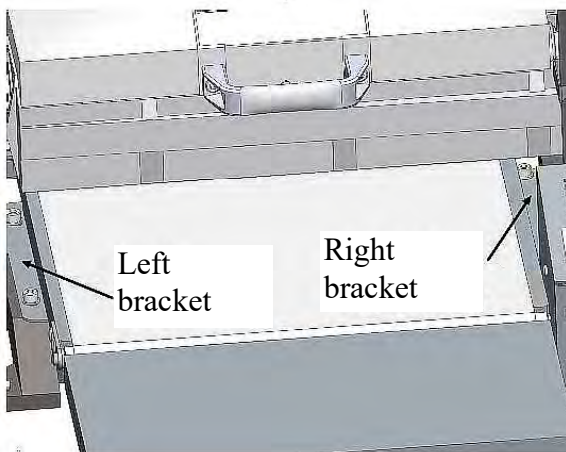

Fig. 31: Set parallelism of feed belt to grinding drum
Step 7: Perform measurement at location A and B as shown in Figure 31.